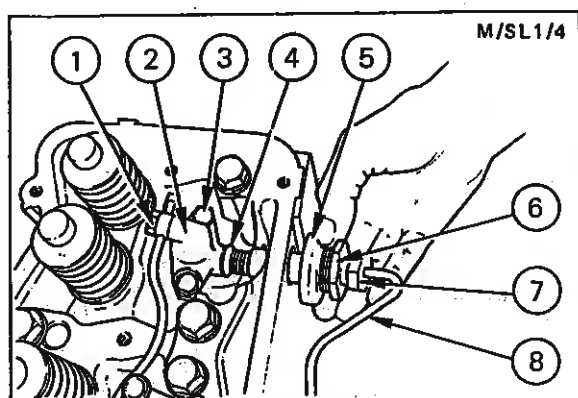

Fig. 14 - Removing Injector
6. Slacken the large oil seal nut (Fig. 14). Where necessary, remove high pressure pipe clamps to gain access.
4. Insert the leak-off pipe banjo bolt (Fig. 14) and tighten it by hand only.